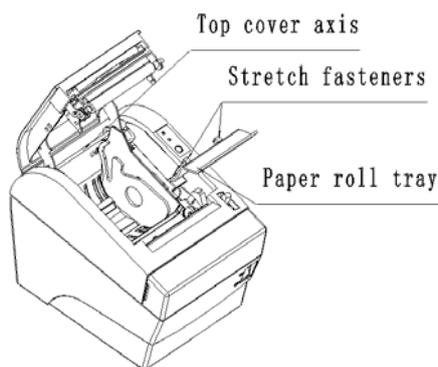

Figure N.2.1
- 1) Open the top cover of the printer and fix the Paper-Roll-Tray on the top cover axis with the two stretch fasteners as shown in figure N.2.1.